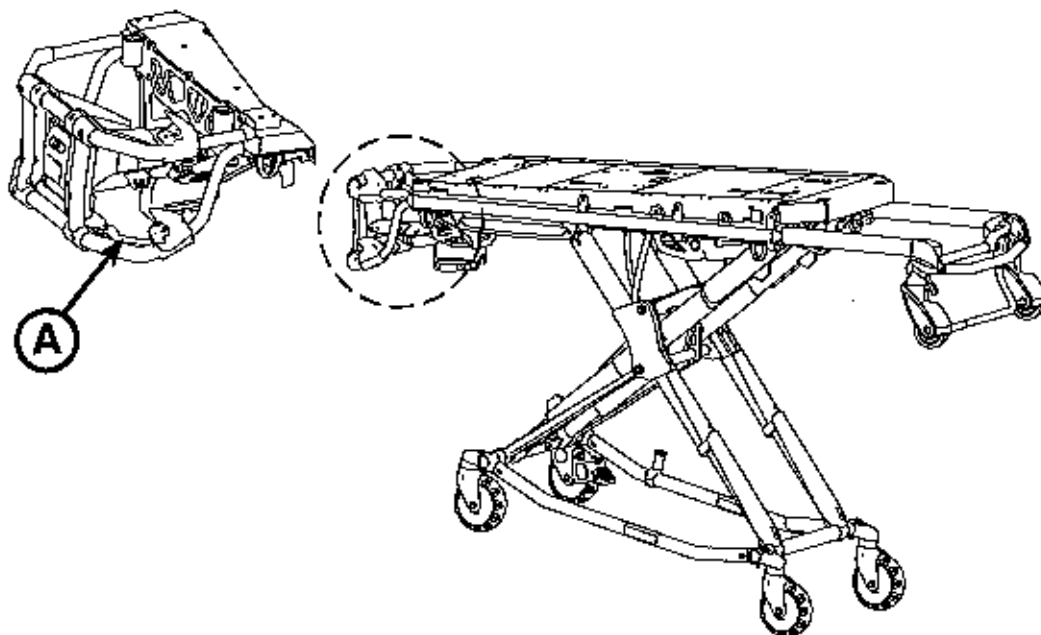

Figure 24: Manual Back-Up Release Handle
The red manual back-up release handle (A) is located along the patient left side of the lower lift bar at the foot end of the cot as shown in Figure 24.